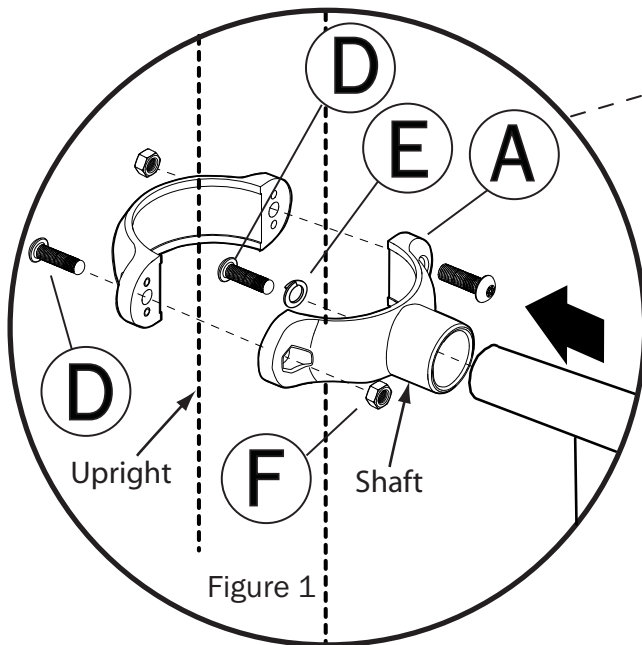

Figure 1
1. Lay (2) Uprights(A) on ground with clamp flange pointing up.
2. Position Deck(B) onto clamp flange of (2) Uprights(A).
3. Align hole in clamp flange with slot on underside of Deck(A). See *Figure 1*.
4. From underside of Clamp, insert Bolt(C) into hole in Clamp and through slot in Deck(B). Push Upright(A) tightly against Deck(B) and secure with Flat Washer(D) and Lock Nut(E).
1. Working on ground, insert shaft of Tube Clamp(A) onto tube of Barrier-Right(C) and tighten securely with Bolt(D) and Lock Washer(E). See *Figure 1*.
2. Place Tube Clamp(A) against Upright. Insert (2)Bolts(D) into Clamp(A) and secure with (2)Lock Nuts(F). See *Figure 1*.
1. Align slots in Handrail-Right(A) with slots of Barrier. See Figure 1.
2. Insert Bolt(C) and Flat Washer(D) into slots in Handrail(A) and into slots in Barrier and secure with Flat Washer(D) and Lock Nut(E). See Figure 1.
1. Insert Bolts(D), Lock Washers(E) and Flat Washers(F) into slot in Mounting Bracket(B) into holes in underside of Slide(A) and tighten. See *Figure 1*.
1. Align slots in Deck with (3) lower holes on back of Straight Slide.
2. From underside of Deck, insert Bolt(A), Lock Washer(B) and Flat Washer(C) into center slot in Deck and lightly tighten. See *Figure 1*.
3. Repeat steps 1 and 2 for the remaining (2) Bolts(A).
4. Tighten Bolts(A) securely.
1. From front side of Slide Hood, insert Bolt(B) and Flat Washer(C) into Slide Hood, through deck and secure with Flat Washer(C) and Lock Nut(D). See Figure 1.